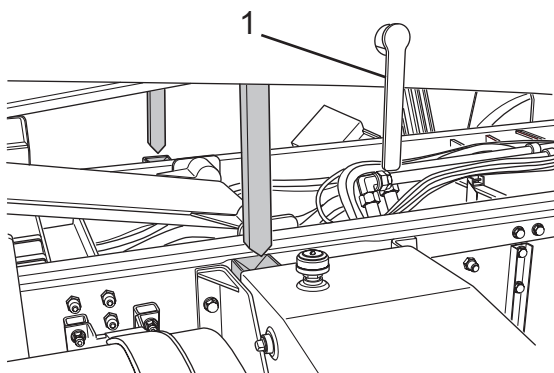

Figure 16
4. Push the prop lever (Figure 16, Item 1) up and move the bracket towards the front of the refuse vehicle to secure the prop lever in place.